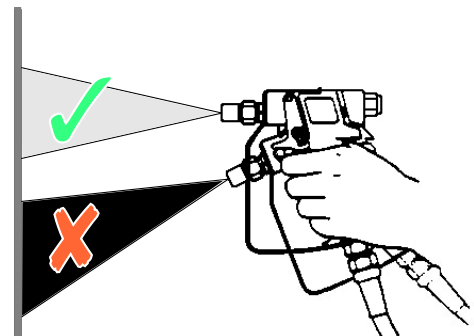

Fig. 16: Spray angle
- ▶ Hold the spray gun at a right angle (90°) to the surface to be coated. As soon as you hold the spray gun at a different angle, the coating will become uneven and patchy (see Fig. 16).